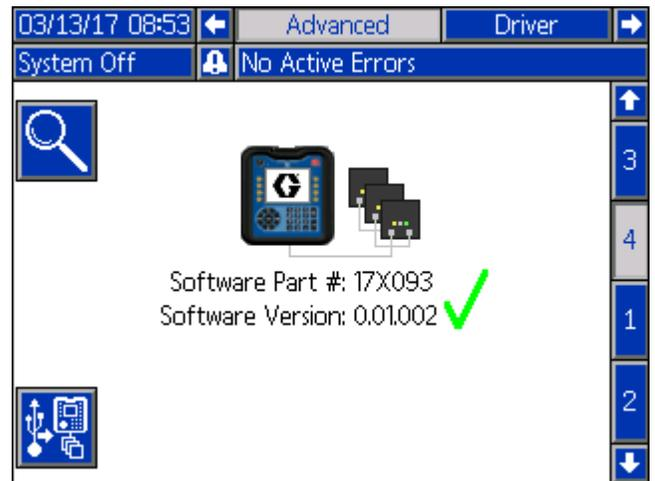

FIG. 4: System Software Screen
key (A) next to the Software Update  icon on the System Software screen. See **Figure 4**.
Press the up directional key (D) to advance to the System Software screen (4) as shown in **Figure 4**. This displays the system software part number and software version.